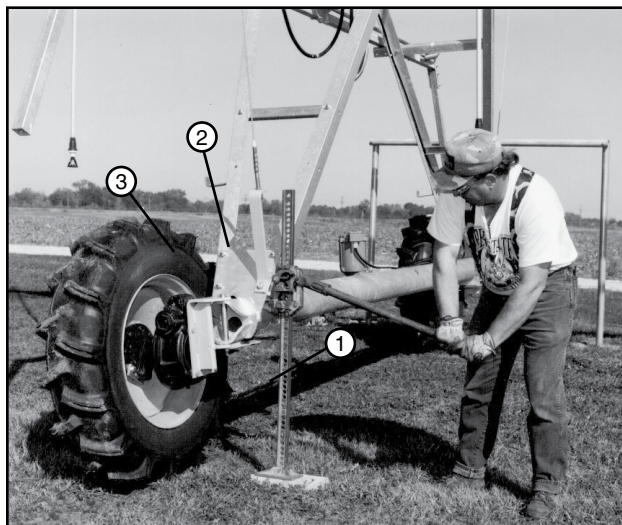

Figure 58-3 1. Jack 2. Drive Unit
3. The wheels on each drive unit must be turned into the tow position. Use a jack to lift one side of the drive unit until the tire is off of the ground. See figure 58-3.